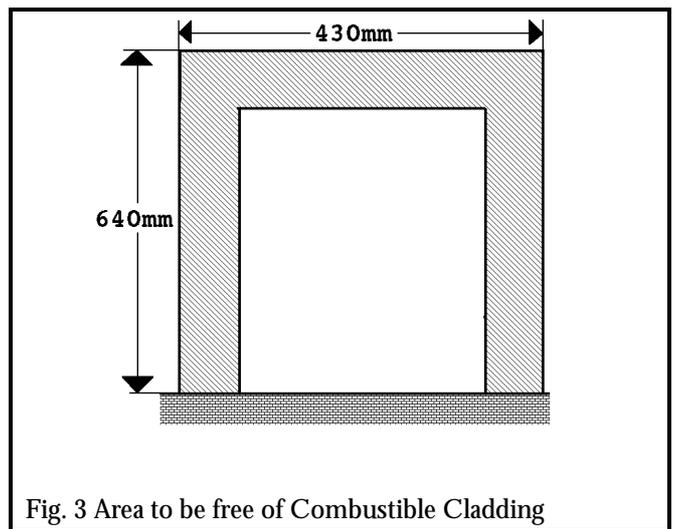

Fig. 3 Area to be free of Combustible Cladding
**2.11** If the fire is to be fitted against walls with combustible cladding, the cladding must be removed from the area shown in Fig.3.